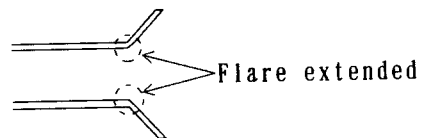

Fig. 2
② To tighten the flare nut, use a torque wrench.
③ The flare part is extended and gas leakage may occur, if excessive force is applied to tighten the flare nut as shown in Fig. 2.